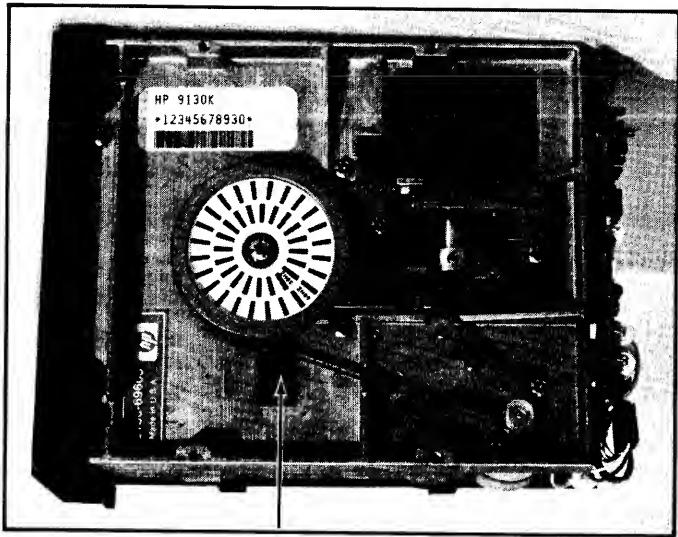

Figure 5-7. Index Detector Retaining Screw
- b. Place drive on its side with bottom facing you as in figure 5-7.
- i. Loosen the index detector retaining screw (Figure 5-7) and move the detector until the INDEX to DATA burst time is approximately 400 uS \pm 300 uS for side 0.